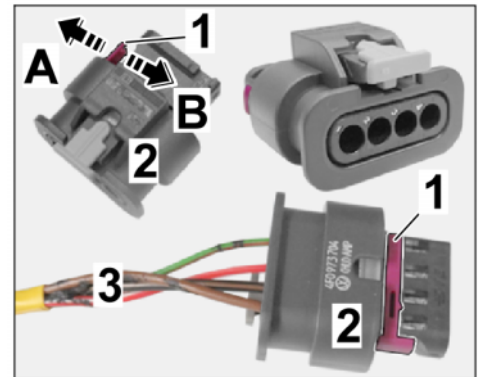

Figure 23
3.4.1 Release the socket housing (4-pin, see parts list) ( $\Rightarrow$  Figure 23 -LHD vehicle -).
3.4.3 Lock the socket housing (4-pin, see parts list) (⇒ *Figure 23 -RHD vehicle -*).